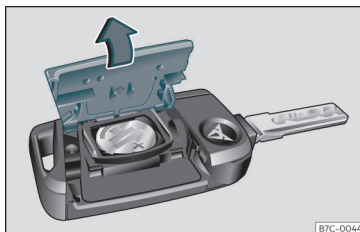

Fig. 72 Vehicle key: opening the battery compartment cover.
- Remove the cover from the back of the vehicle key >>> Fig. 72 in the direction of the arrow >>> ⚠.
- Fit the cover as shown >>> Fig. 72, pressing it onto the vehicle key casing in the opposite direction to that shown by the arrow until it clicks into place.